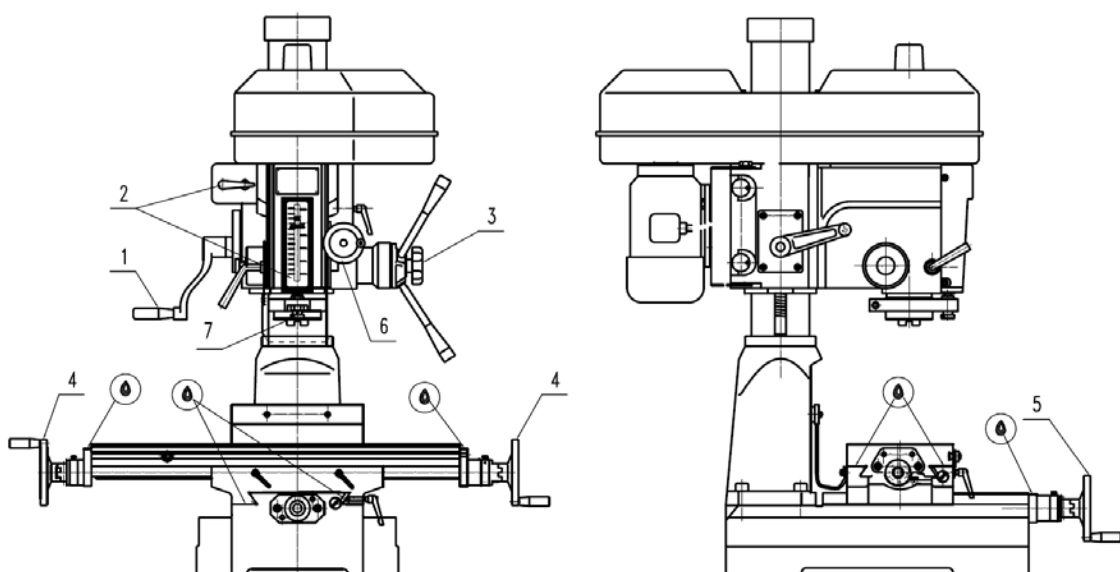

Fig.1
- (1)Your machine has been coated with a heavy grease to protect it in shipping.This coating should be completely removed before operating the machine.Commercialdegreaser,kerosene or similar solvent may be used to remove the grease from the machine,but avoid getting solvent on belts or other rubber parts.
- (2)After cleaning,coat all bright work with a light lubricant,Lubricant all points in Fig.1 with a medium consistency machine oil.
- (3)Lubricating points as shown in arrows.
5.USE OF MAIN MACHINE PARTS(See Fig.1)